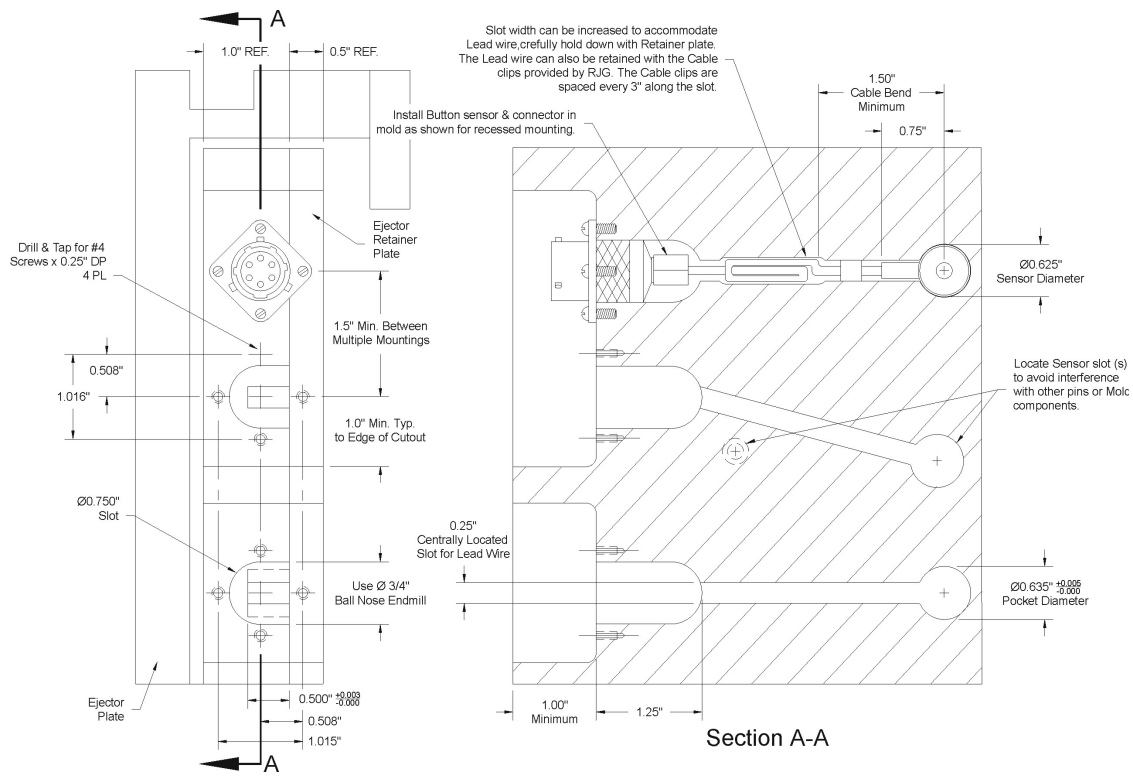

Figure 12 Recessed Mounting of the T-445
- d. Prepare a pocket in the edge of the plate to recess the sensor connector for protection. The pocket must be large enough to allow the connection/disconnection of the cable when setting and removing the mold from the press (See Figure 12).
- e. If the sensor cable must be bent to accommodate obstacles in the mold, there must be a 1.50" minimum clearance (from the center of the button towards the connector end) before the cable can be bent. This will ensure that the wires will not be pulled out of the button (See Figure 12).
Figure 12 outlines the dimensions when inserting the T-445 into an ejector plate.